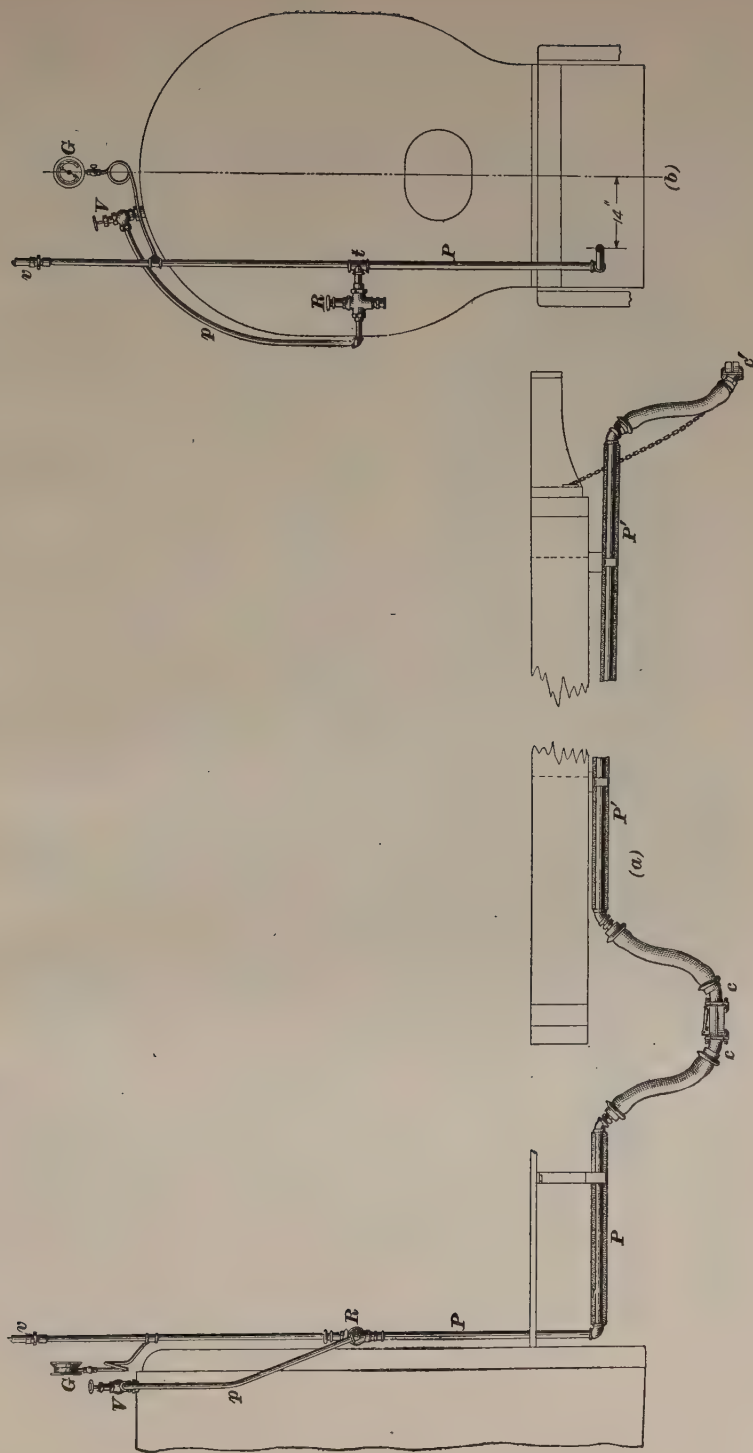
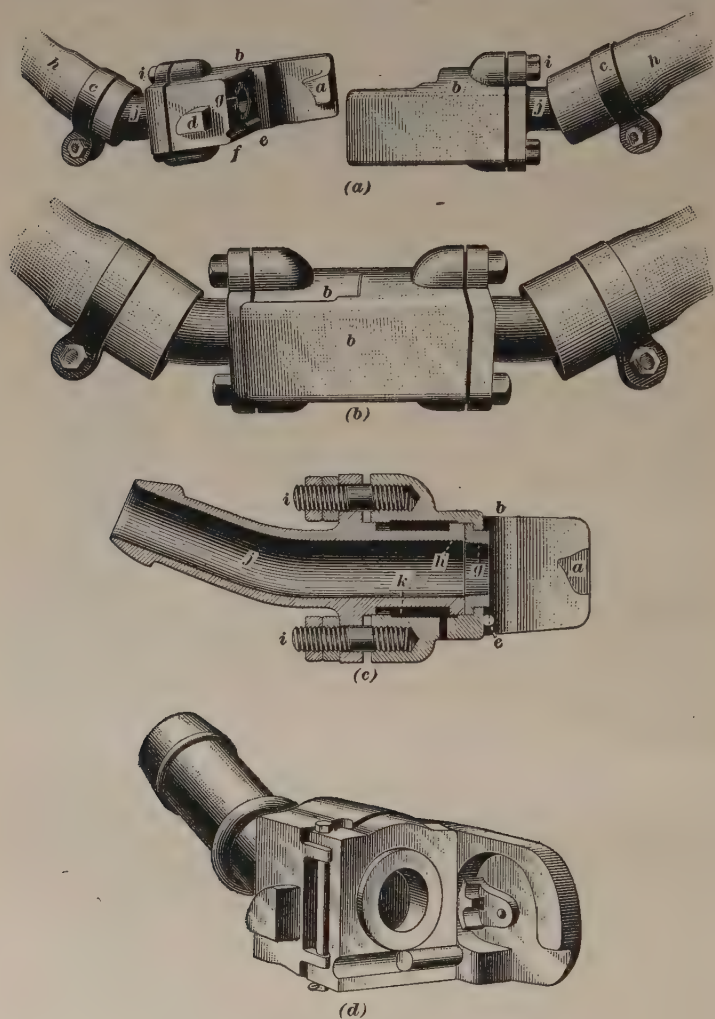

FIG. 12
FIG. 14
17. Fig. 12 shows the arrangement of the engine equipment, (*a*) being a side view and (*b*) an end view of the engine. Steam is taken from the boiler at the stop-valve *V*, passing thence by pipe *p* to pressure regulator *R*, which reduces its pressure to that required in the train. From *R*, steam passes through pipe *P* to the couplers between engine and tender, and thence along pipe *P'* to the train. The fitting *t* allows the steam to pass to the pressure gauge *G* and relief valve *v*. The couplers *c* between the engine and tender are the Sewall lever couplers; the coupler *c'* at the rear end of the tender is a standard Sewall coupler.
18. Stop-Valve and Pressure Regulator.—The stop-valve used is an ordinary globe valve. Its construction permits it to be connected directly to the boiler, as in Fig. 12, or else placed horizontally at the side of the boiler; or it can be located in any suitable position in the steam pipe.
21. Hose Couplers.—The steam coupler used by the Consolidated Company is that known as the Sewall coupler. It is shown in Fig. 14, view (*a*) showing the parts uncoupled, view (*b*) showing it coupled up, and view (*c*) showing a sectional view of it. *b* is the body and *c* is the collar holding the hose *h* in place on the nipple *j*. The two curved lugs *a* and *d* serve to lock the coupler together, forcing the gaskets *g* into contact with each other. On the inner face of each coupler are formed a lug, or tooth, *e* and a space *f*, the tooth in the one coupler engaging with the space in the other. These teeth act as a guide when coupling, and also subsequently keep the couplers in their right position relative to each other. The gasket *g* is gripped between the body *b* and the end *h* of nipple *j*, being tightened by bolts *i* tapped into the body. If the gasket becomes at all worn, it can be forced outwards without removing it, by tightening the nuts of bolts *i*. *k* is an air space surrounding the part of the
The coupler used between engine and tender is the same as here shown, with the addition of a lever shown in Fig. 12. This coupler, when connected with the adjacent one, can be locked in position by means of the lever, when they will not uncouple until this lever is put back. It will couple with the ordinary coupler, the locking device not being brought into use unless desired. Another form of Sewall coupler, in which the gasket can be taken from the coupler head and replaced with a new one much easier than with the older pattern, is shown in Fig. 14 (*d*).